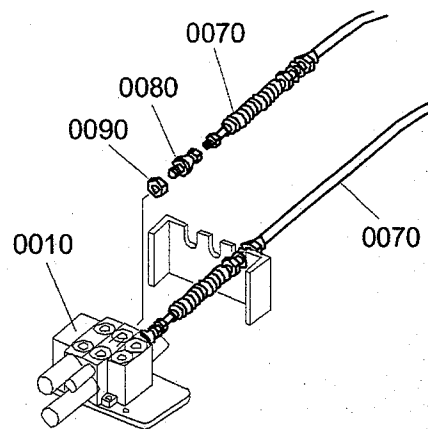

Fig84-11:
3. Fig84-11: Undo the nut (0090), then turn the rod end (0080) to remove the cables (0070, two pieces) from the control valve (0010).